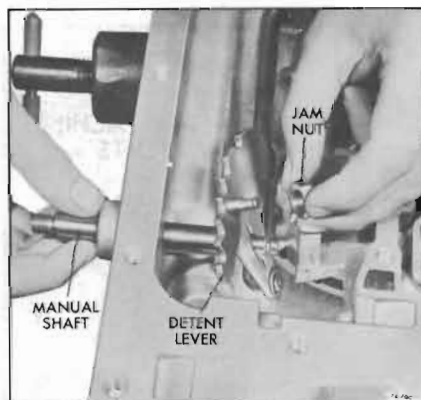

Figure 74-768
5. Install the retaining hex-lock nut on the manual shaft. See Figure 74-768.